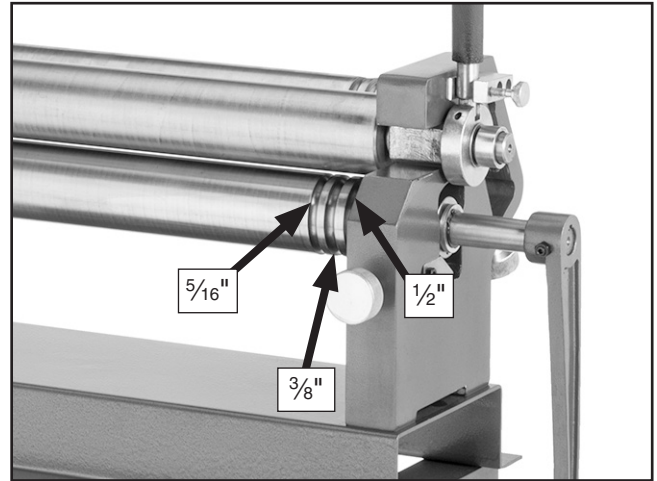

Figure 59. Location of wire grooves.
3. Place workpiece into smallest possible groove on wheel. The three sizes are $\frac{5}{16}$ ", $\frac{3}{8}$ ", and $\frac{1}{2}$ " (see **Figure 59**).